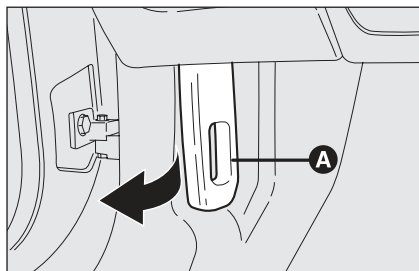

fig. 116
- ☐ pull the lever **A-fig. 116** in the direction indicated by the arrow in order to release the lock of the engine bonnet;